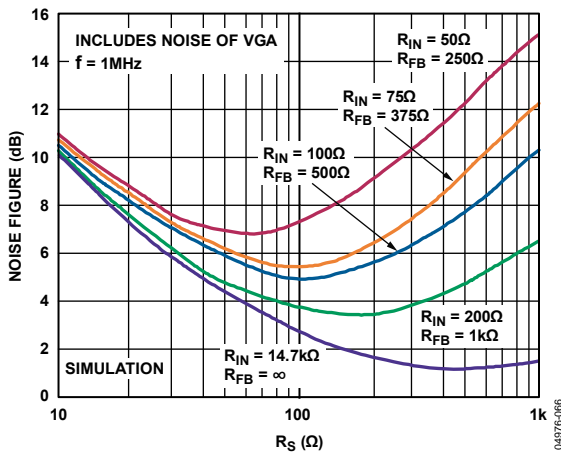

Figure 56. Simulated Noise Figure vs. R_S for Various Fixed Values of R_{IN} , Actively Matched
Figure 56 shows the simulated noise figure (NF) vs. source resistance, and various values of preamplifier R_{IN} from 50 Ω to 14.7 k Ω , the value seen looking into the PIPx pins when $R_{FB} = \infty$. As shown in the figure, the minimum NF for $R_{IN} = 50 \Omega$ is slightly less than 7 dB. Note that, for this preamplifier, the NF is optimized for the R_{IN} from 50 Ω to 200 Ω ; for $R_{FB} = \infty$, the minimum NF is at approximately 480 Ω . This optimum noise resistance can also be calculated by dividing the input referred voltage noise by the current noise.